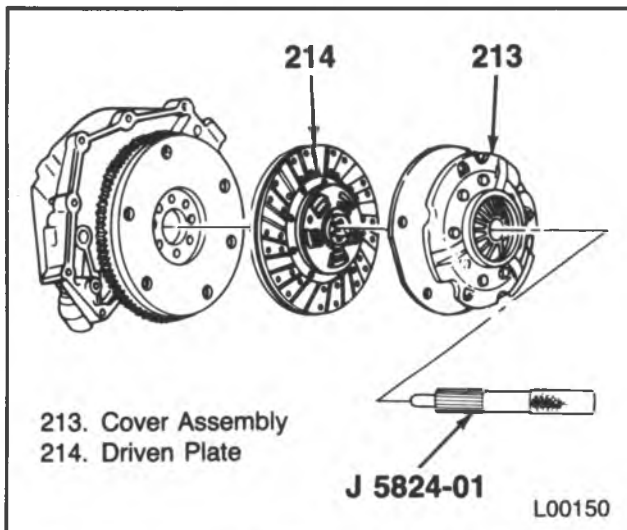
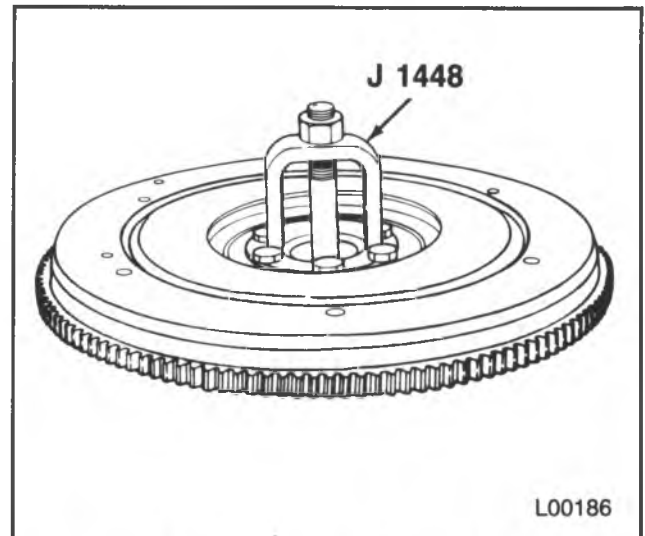

Figure 12 — Installing Clutch Alignment Tool
Figure 13 — Removing the Pilot Bearing
- Install J 5824-01 or a used clutch drive gear to support the clutch (figure 12).
8. Cover assembly (213) and the driven plate (214).
9. Pilot bearing (217) if it is worn or damaged.
- Use J 1448 or J 23907 as needed (figure 13).
10. Screws (218) and straps (219).
11. Pressure plate (220).